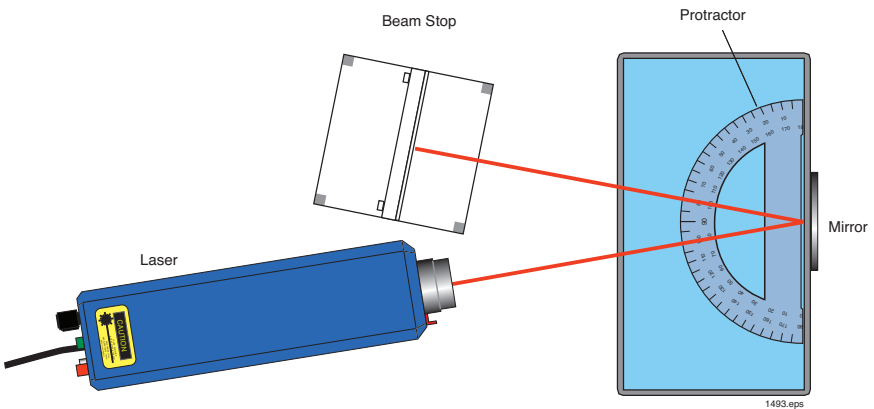
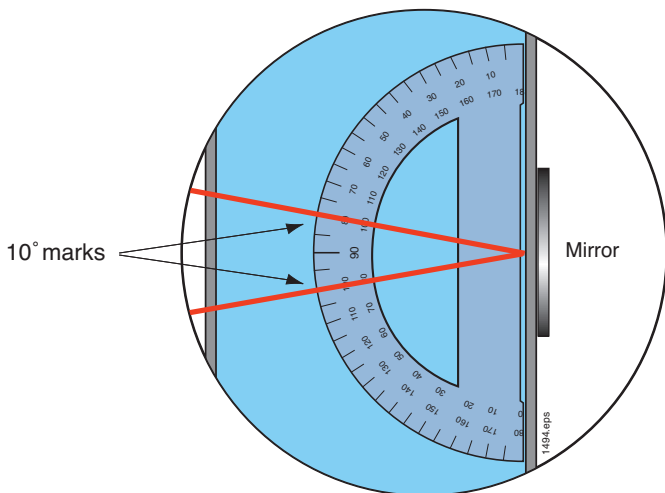

Figure 4. Overhead view of the laser, protractor and scattering tank of water.
Figure 5. Detail of laser beam alignment with the protractor.
2. Collect all of the items listed in the EQUIPMENT NEEDED section. Place the protractor in the bottom of the scattering tank as shown in Figure 4.
6. Roughly align the laser so its beam will pass over the center of the protractor as shown in Figure 4.
7. Position the beam stop so the laser beam reflecting from the mirror will strike the beam stop as shown in Figure 4.
11. Depress the ON/OFF switch (SW) on the control scattering tank of the laser until it clicks into the ON position. (The switch should be slightly depressed.) The pilot light (green LED) should now be lit, showing that the laser is on.
17. Stand above the experiment and look down on it so you can see the laser beam and components as shown in Figure 5.
18. Align the incident laser beam over the center and the 10° mark on the protractor as shown in Figure 5.